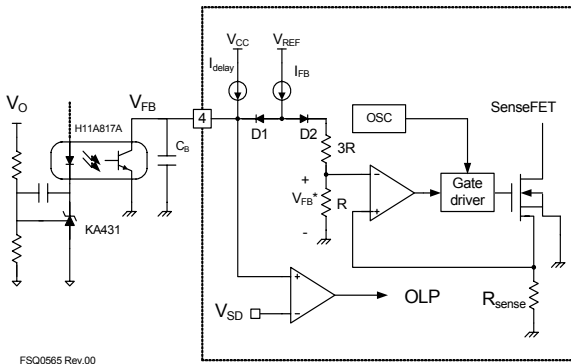

Figure 24. Pulse-Width-Modulation (PWM) Circuit
2. Feedback Control: power switch employs current-mode control, as shown in Figure 24. An opto-coupler (such as the FOD817A) and shunt regulator (such as the KA431) are typically used to implement the feedback network. Comparing the feedback voltage with the voltage across the R_{sense} resistor makes it possible to control the switching duty cycle. When the reference pin voltage of the shunt regulator exceeds the internal reference voltage of 2.5V, the opto-coupler LED current increases, pulling down the feedback voltage and reducing the duty cycle. This typically happens when the input voltage is increased or the output load is decreased.
2.1 Pulse-by-Pulse Current Limit: Because current-mode control is employed, the peak current through the SenseFET is limited by the inverting input of PWM comparator (V_{FB}^*), as shown in Figure 24. Assuming that the 0.9mA current source flows only through the internal resistor ($3R + R = 2.8k$), the cathode voltage of diode D2 is about 2.5V. Since D1 is blocked when the feedback voltage (V_{FB}) exceeds 2.5V, the maximum voltage of the cathode of D2 is clamped at this voltage, clamping V_{FB}^* . Therefore, the peak value of the current through the SenseFET is limited.